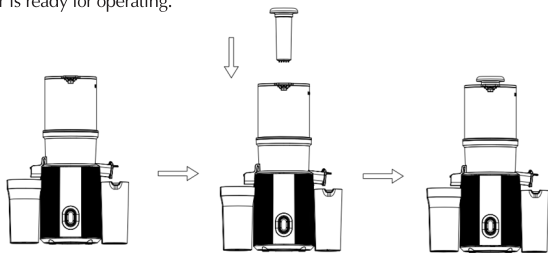

Fig.6
4. Place your juice container below the juice outlet and residue container below the residue outlet, then put the food pusher into the feeding hole well in position (see Fig.6). Until now, the Juicer is ready for operating.